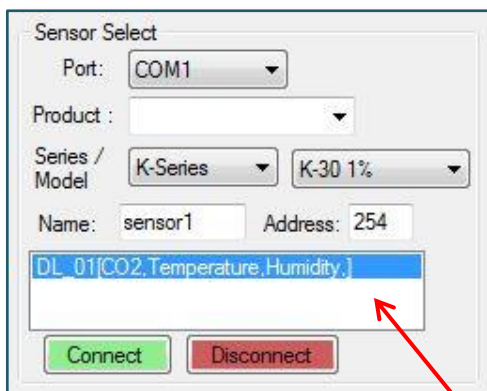

Figure 4: Sensor Select section
(see *Figure 4*)
- **Sensor Name** – type the desired sensor name in the *Name* box. This information will be used by GasLab™ as a unique identifier shown on the real-time graph and product list. The default name is “sensorn”, where *n* is a sequential number added automatically by the GasLab™ software. For example, **Figure 4** shows a sensor being added for COM1, which was automatically named as “sensor1” by the GasLab™ software, while the product list shows a connected sensor named “DL_01”.
In order to successfully specify a sensor, you are required to make selections for the **Port** field and either the **Product** field or the **Series** and the **Model** fields. Once the required information has been added, a description of the sensor will appear in the product list area (white box) as shown in **Figure 4**. Finally click on the **CONNECT** button to access your sensor using the GasLab™ software.